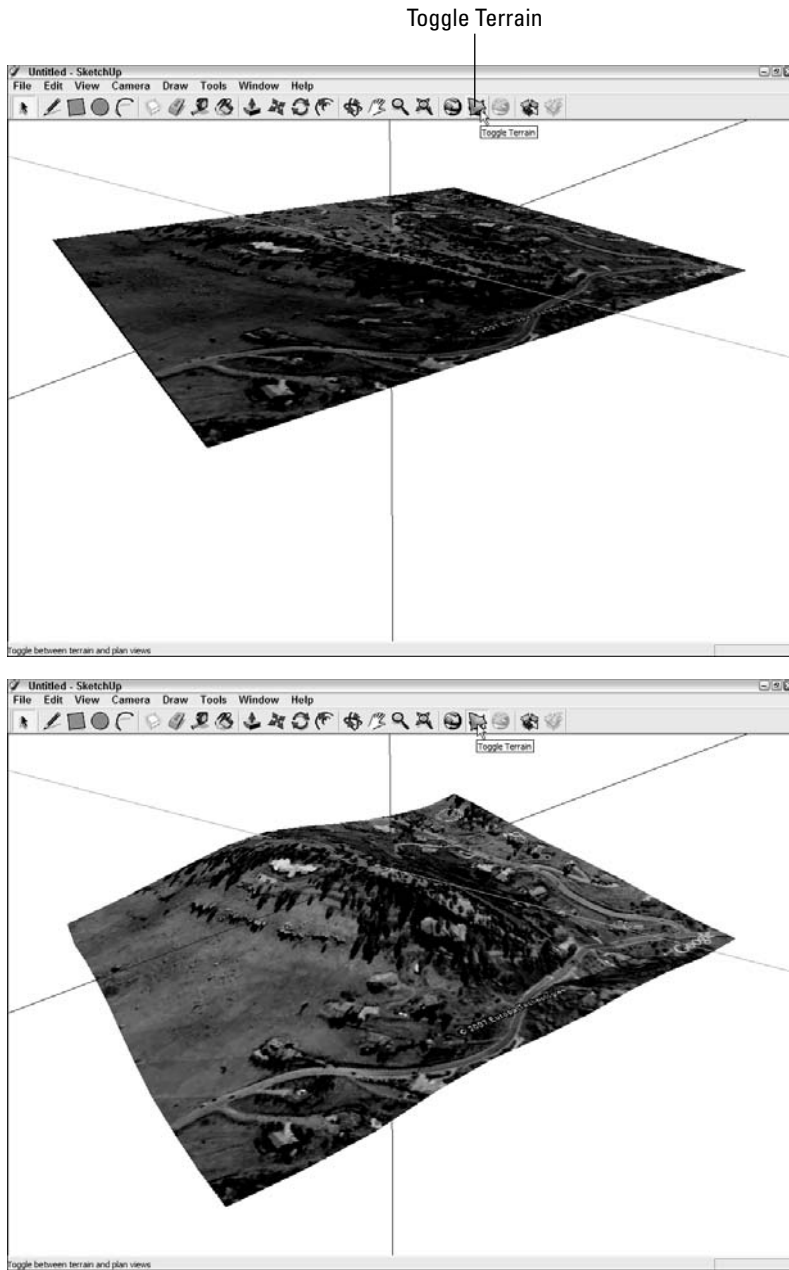

Figure 11-7: Use Toggle Terrain to switch between flat and 3D views of your Google Earth snapshot.
- ✓ **There's more to snapshots than meets the eye.** The snapshot that SketchUp imports from Google Earth is more than just a black-and-white aerial photo — it also includes a chunk of topography called *terrain*. The terrain is flat when you first import it because it's easier to build on that way, but you can toggle between flat and 3D (not flat) views by choosing Tools⇨Google Earth⇨Toggle Terrain. Don't fret if you don't see any difference when you flip between the views — you probably just chose a flat site. Figure 11-7 shows the same snapshot with terrain toggled off (top) and on (bottom).